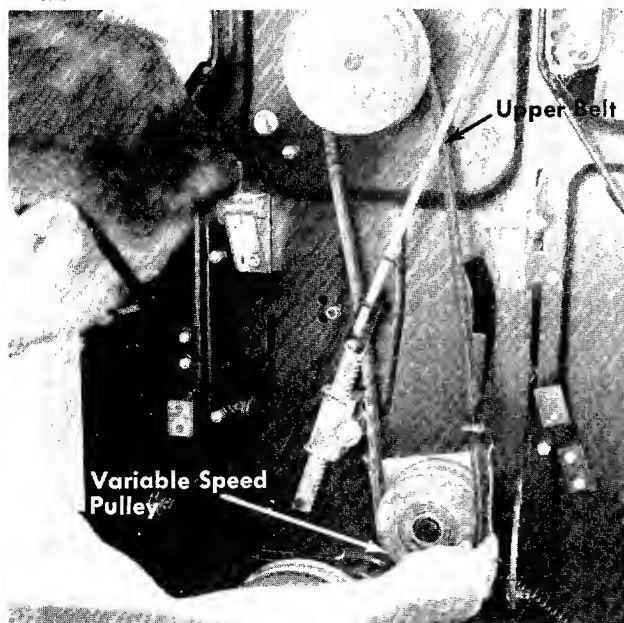

FIGURE 34. REMOVING FROM VARIABLE SPEED
- Step 11. Slide the movable center section of the variable speed pulley away from the rider and remove the upper belt from the variable speed pulley. See figure 34.